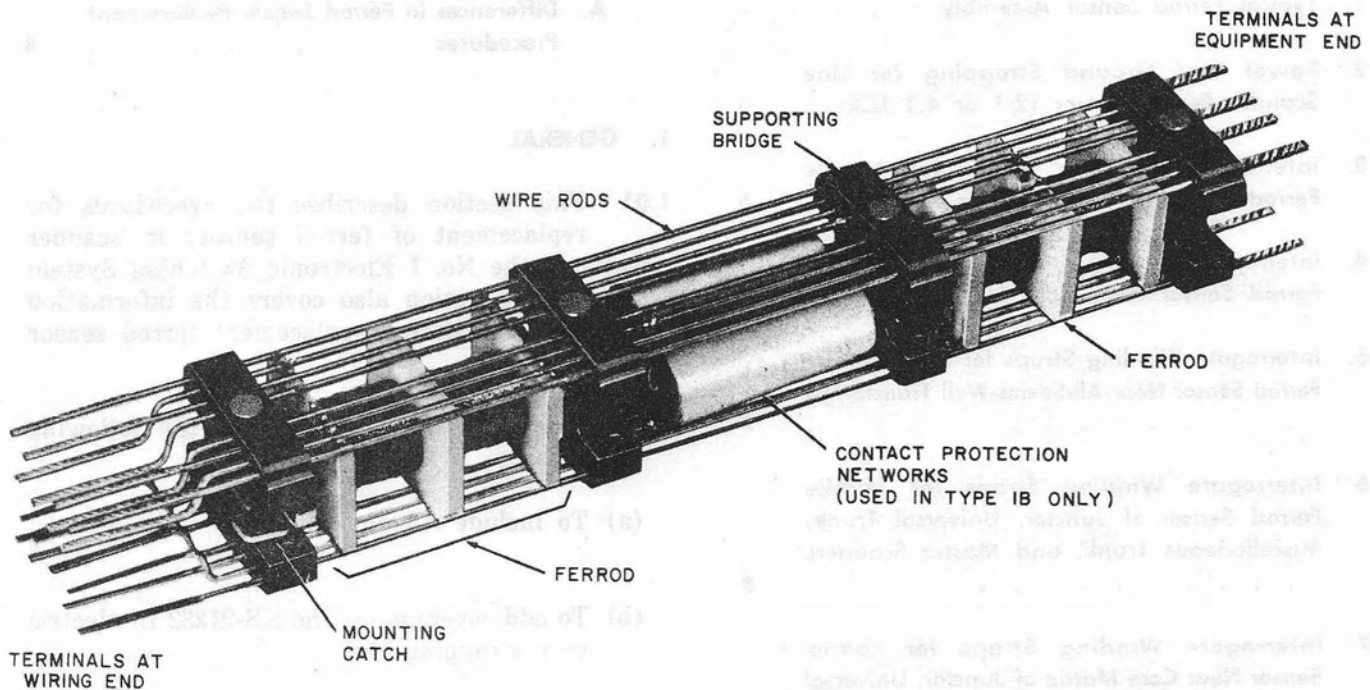

Fig. 1—Typical Ferrod Sensor Assembly
1.03 Ferrod sensors used in the various scanner circuits are listed in Part 3. A typical two ferrod sensor assembly is shown in Fig. 1. For more information on scanner operation, refer to Section 231-030-010.